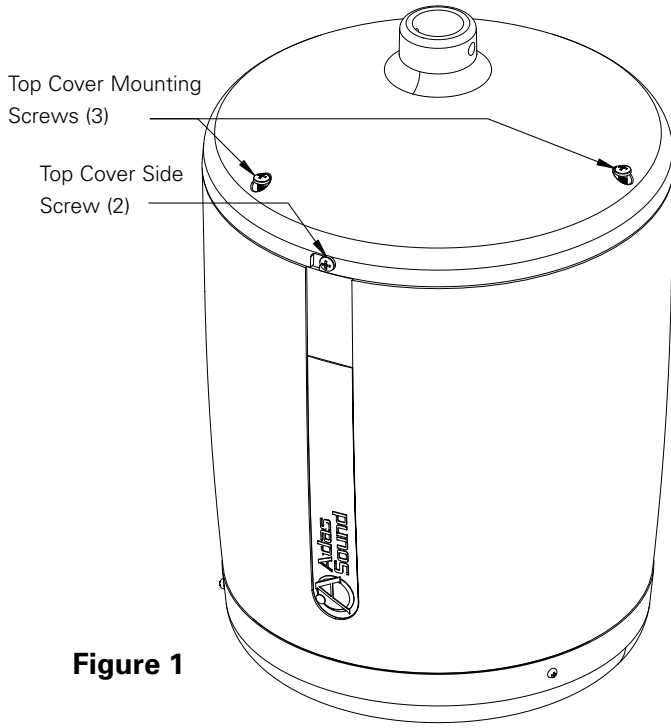

Figure 1
1. Remove the 3 top cover mounting screws, loosen the 2 side top cover screws rotate the top cover counterclockwise, and pull up to remove the top cover. (Fig 1 and 2)
1. Remove the 3 top cover mounting screws, loosen the 2 side top cover screws rotate the top cover counterclockwise, and pull up to remove the top cover. (Figure 1 and 2)